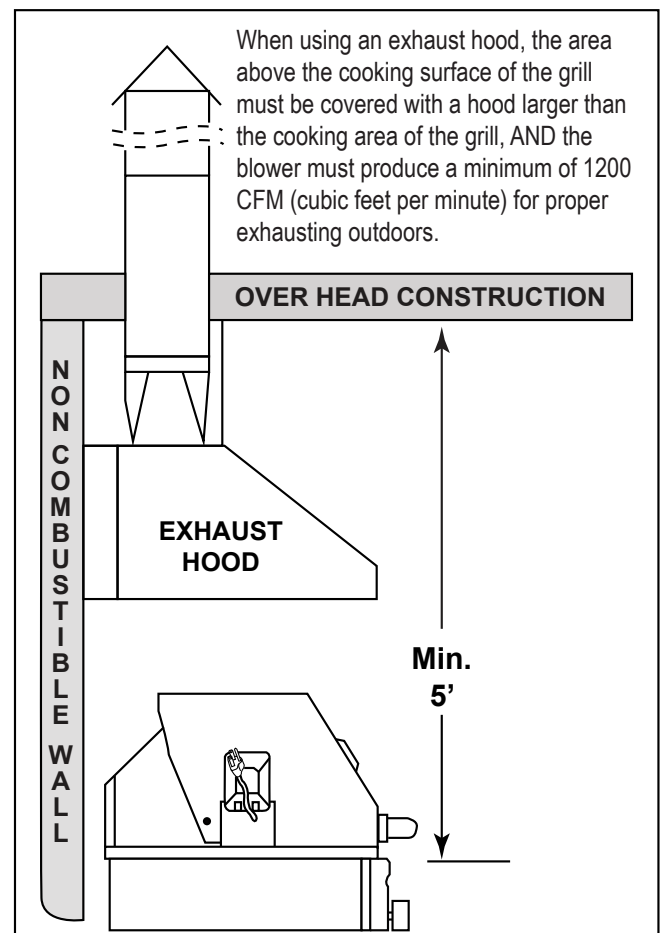

Figure 5
**When the grill is installed under a combustible overhead construction, the area above the cooking surface of the grill must be used with an exhaust hood.** The exhaust hood provides the protection for the combustible overhead construction. See Figure 5.